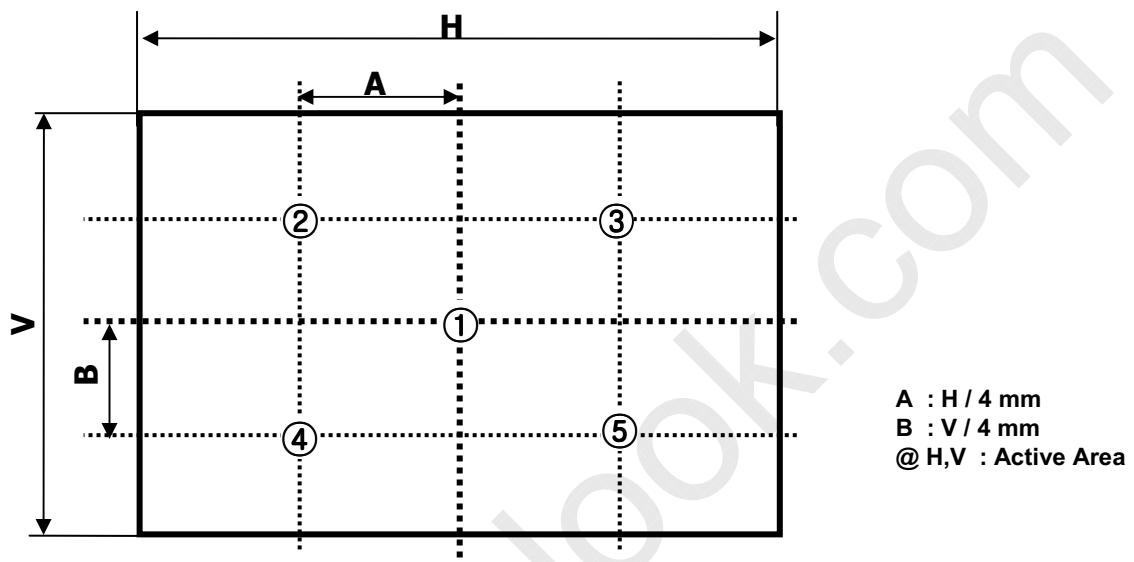

FIG. 2 5 Points for Luminance Measure
n = the Position number(1, 2, 3, 4, 5). For more information, see FIG. 2.
2. Surface luminance are determined after the unit has been 'ON' and 60min after lighting the backlight in a dark environment at 25±2°C. Surface luminance is the luminance value at center 1-point across the LCD surface 50cm from the surface with all pixels displaying white. For more information see the FIG. 2.
For more information, see the FIG. 2.